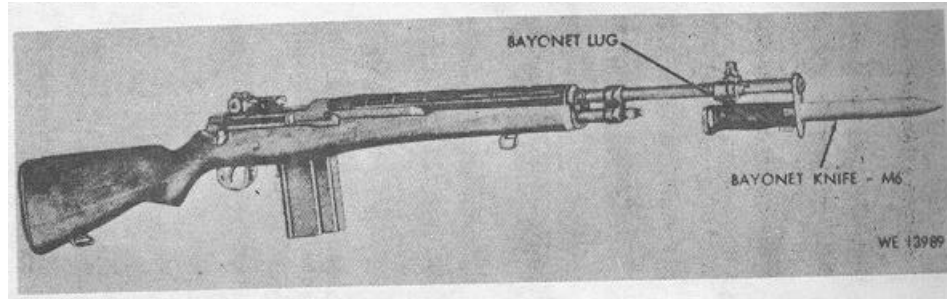
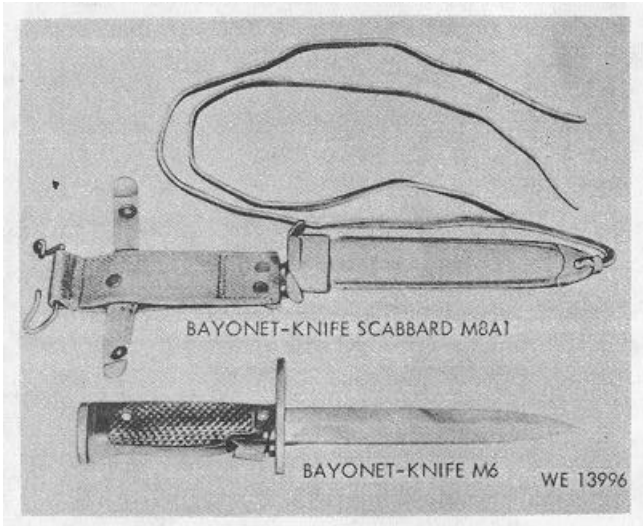

Figure 1-4. 7.62-MM Rifle M14 and Bayonet-knife M6.
Figure 1-11. Bayonet-Knife M6 and Bayonet-Knife Scabbard M8A1.
d. The Bayonet-Knife M6 (fig. 1-11) is used in conjunction with Rifle, M14 for close combat. It connects to the bayonet lug of the flash suppressor and a closed loop in the handle encircles the flash suppressor (-fig. 1-4).
e. The bayonet-knife scabbard (fig. 1-11) serves as a carrier for the bayonet when it is not assembled to the rifle.